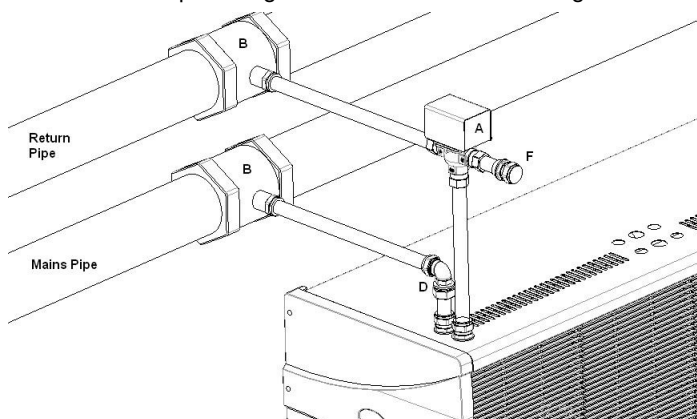

Figure 3.
3. Make all the plumbing connections as shown in Fig. 3